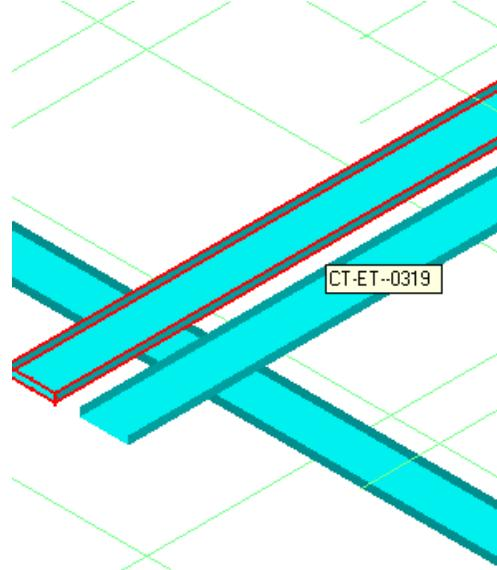

Figure 68: Selected Cableway to Start the Vertical Drop out
6. Select one of the cable tray, as shown in Figure 68 when the system prompts the message 'Select Cableway Runs/Features or Conduit End Features To Connect From'.